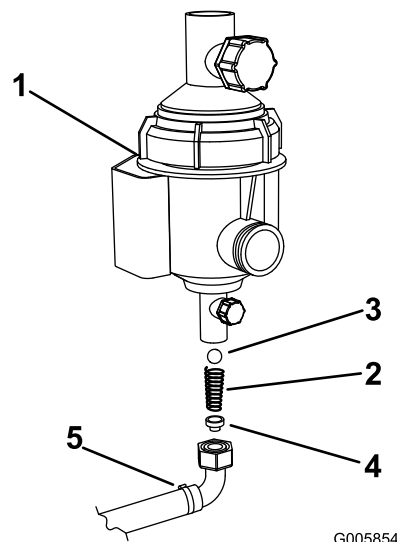

Figure 43
2. Install the spring, ball, and red plug then elbow on hose assembly into the vertical pressure inlet on the bottom of the filter (Figure 43).
3. Secure the parts internal by connecting the threaded nut side of filter flush hose to pressure inlet on the bottom of the filter (Figure 43).